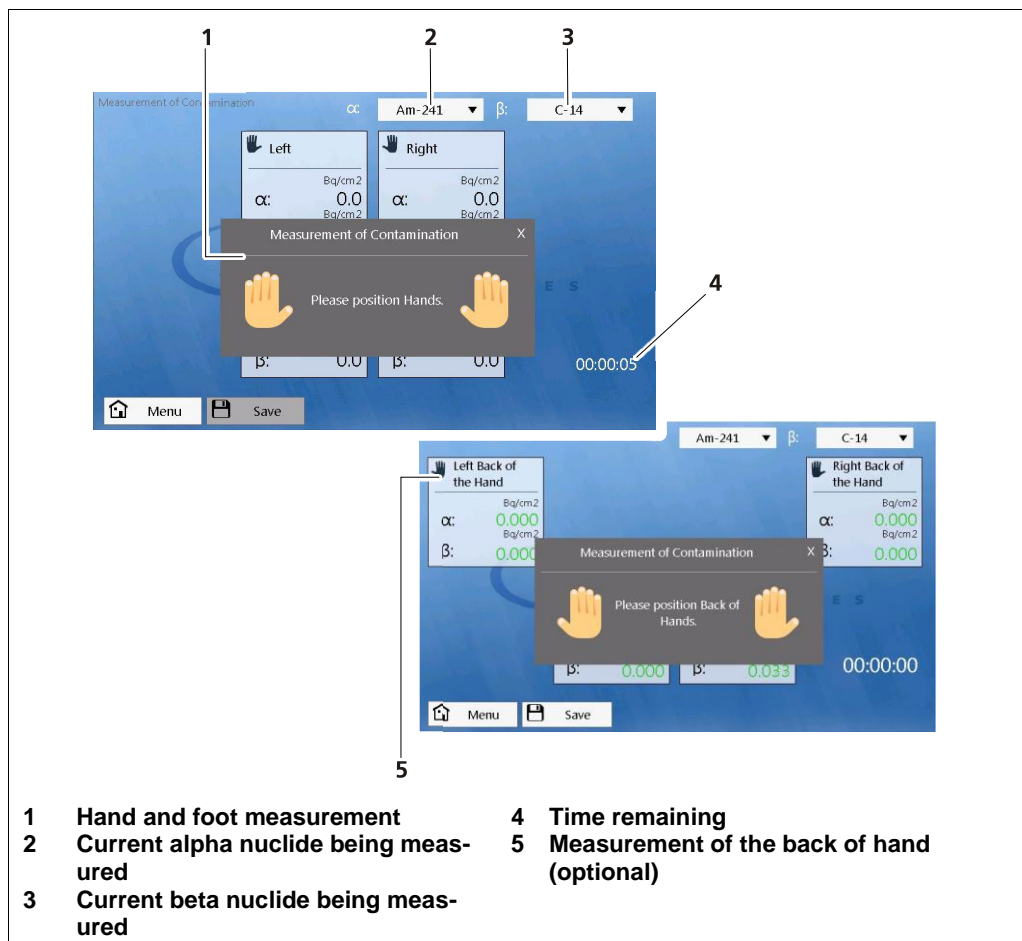

Fig. 14 Performing a contamination measurement
4. Keep your hands on the detectors and do not step off the foot plate while the measurement is running. The remaining measurement time (Fig. 14, item 4) is displayed at the bottom right.